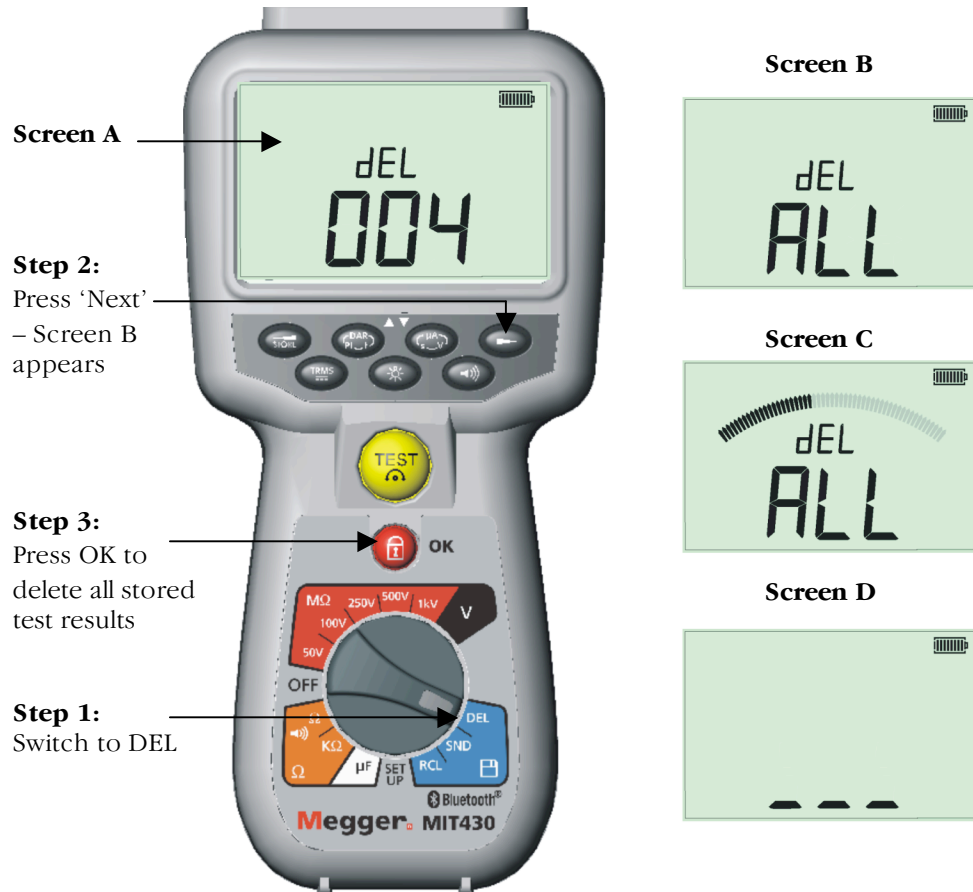

Figure 17 Deleting all test results
Figure 17 illustrates the displays, which will be shown during a Dielectric Absorption Ratio (DAR) test result recall.
3. Press 'OK' to delete all the test results. Note the progress bar decays as the contents of memory are deleted. See figure 17 screen C.
4. On completion of the deletion progress the display indicates three dashes signifying that no result remains stored. See figure 17 screen D.